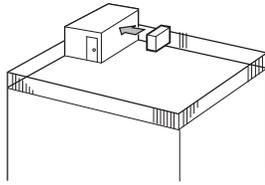

Fig. 2-3
(1) Face the air outlet towards the nearest available wall 35 cm away from the wall. (Fig. 2-3)